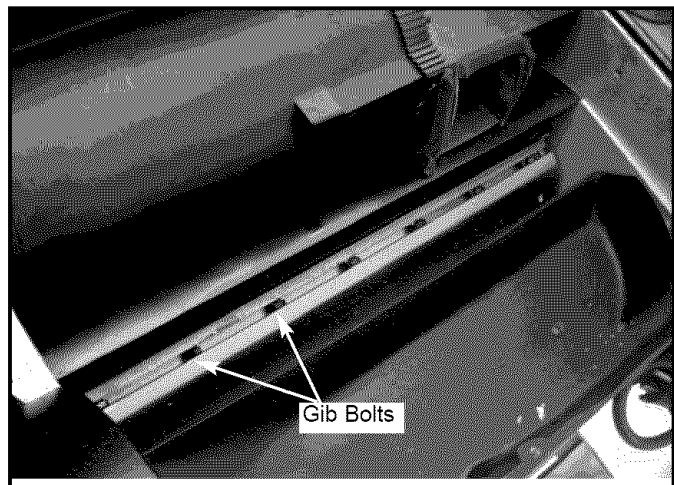

Figure 22 – Loosen All Gib Bolts
- Loosen all seven gib bolts enough so that blade is loose (See Figure 22).